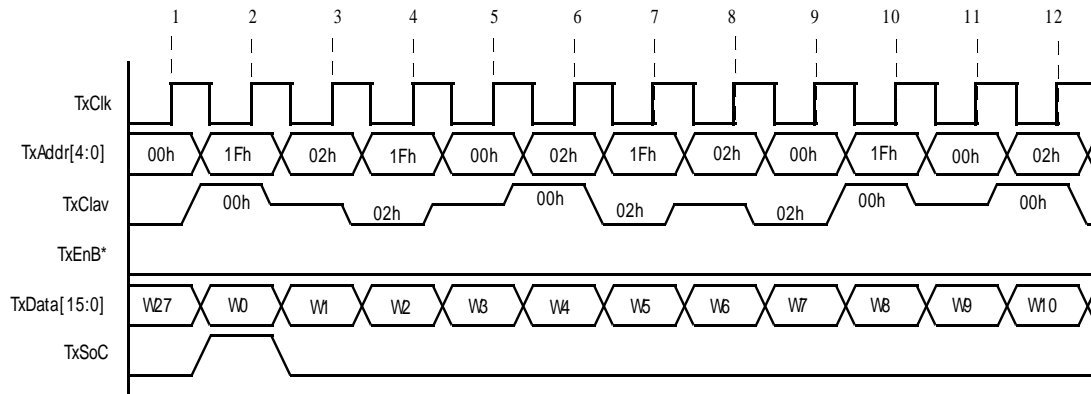

Figure 25. Timing Diagram illustrating the Behavior of various signals from the ATM Layer processor and the UN, during Polling.
Figure 25 presents a timing diagram, that depicts the behavior of the ATM Layer processor’s and the UN’s signals
Notes regarding Figure 25:
2. The Transmit Utopia Interface Block is configured to handle 54 bytes/cell. Hence, Figure 25 illustrates the ATM Layer processor writing 27 words (W0 through W26) for each ATM cell.